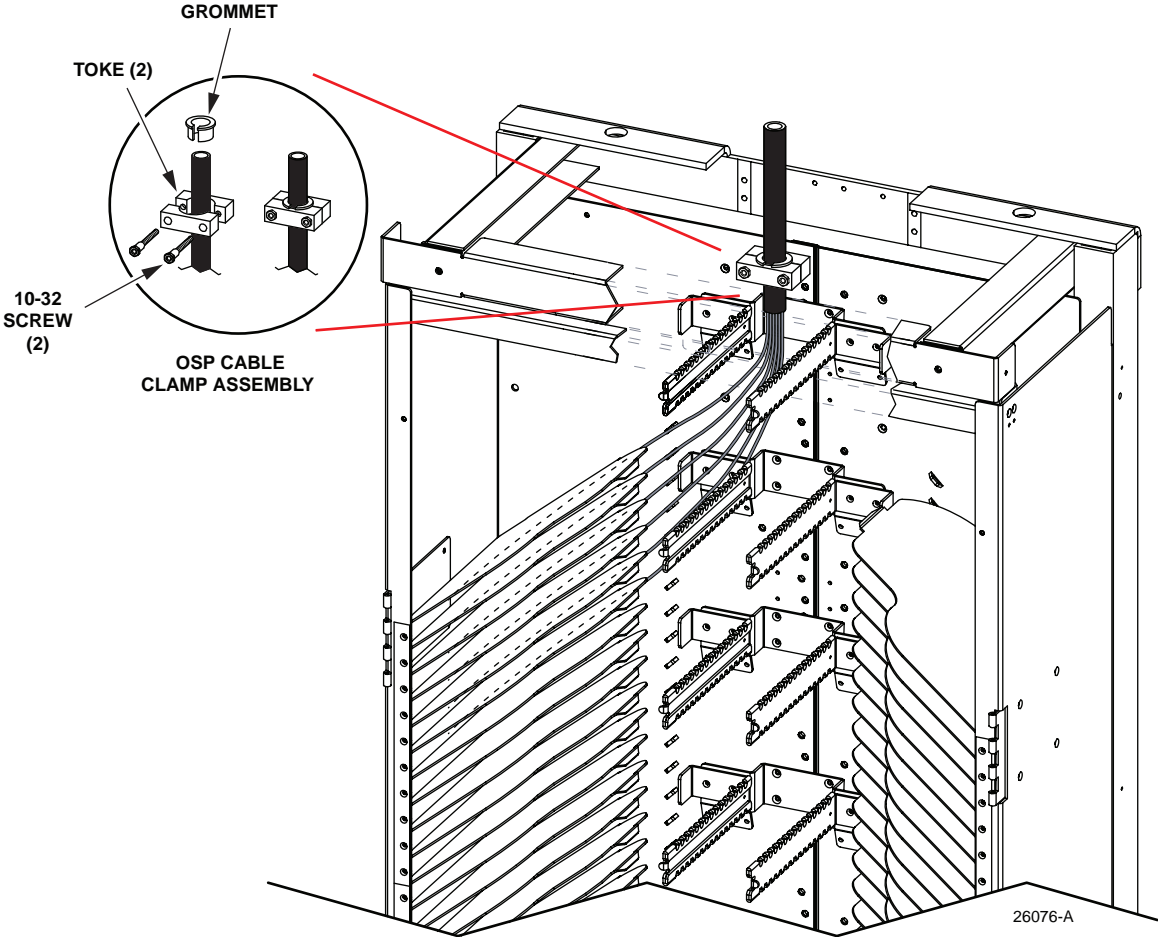

Figure 23. OSP Cable Routing (Overhead Cable Environment, 72-Fiber IFC Configuration)
- 1. Route and secure the first OSP cable to the bay as shown in Figure 23.